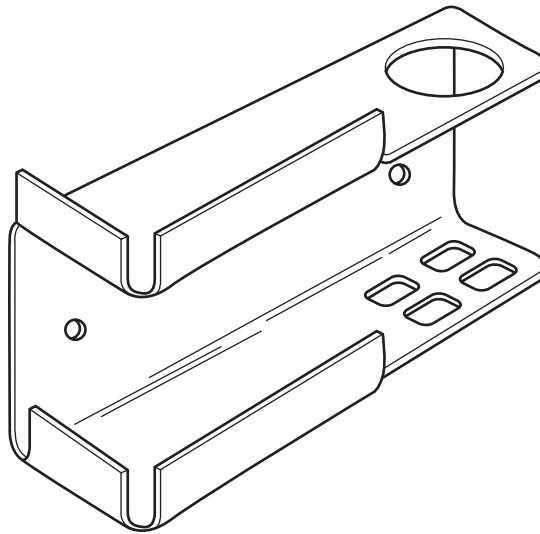

Fig. 6
- 8 Fig. 6 shows a bathroom fitting made from plastic.